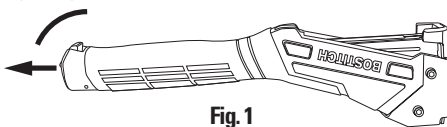

Fig. 1
1. Hold hammer tacker upside down as shown in fig. 1 and push up latch to release. Pull slide out.